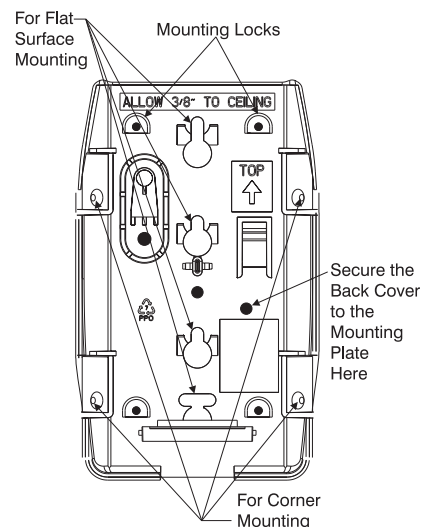

Figure 7. Mounting Plate
- Use the mounting plate to mark the mounting holes on the mounting surface (See Figure 7).